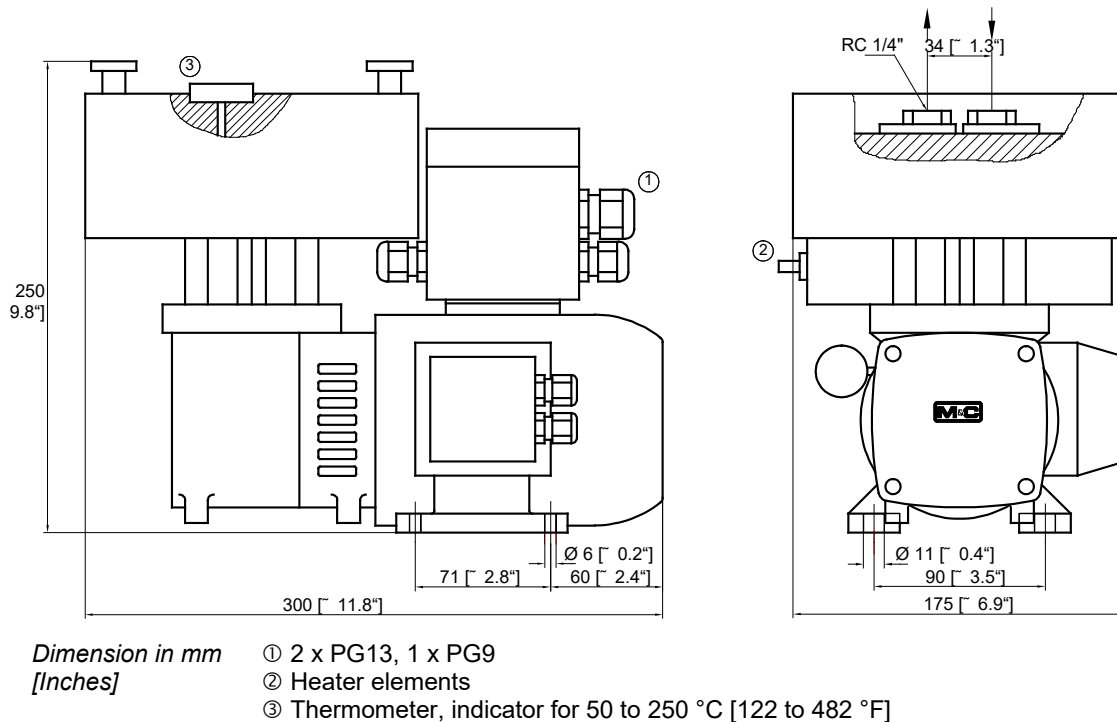

Figure 2 Dimensions [mm and Inches] MP26-H1
- The dimensions of the mountings are given in Figure 2.
Figure 2 shows the dimensions of the diaphragm pump.